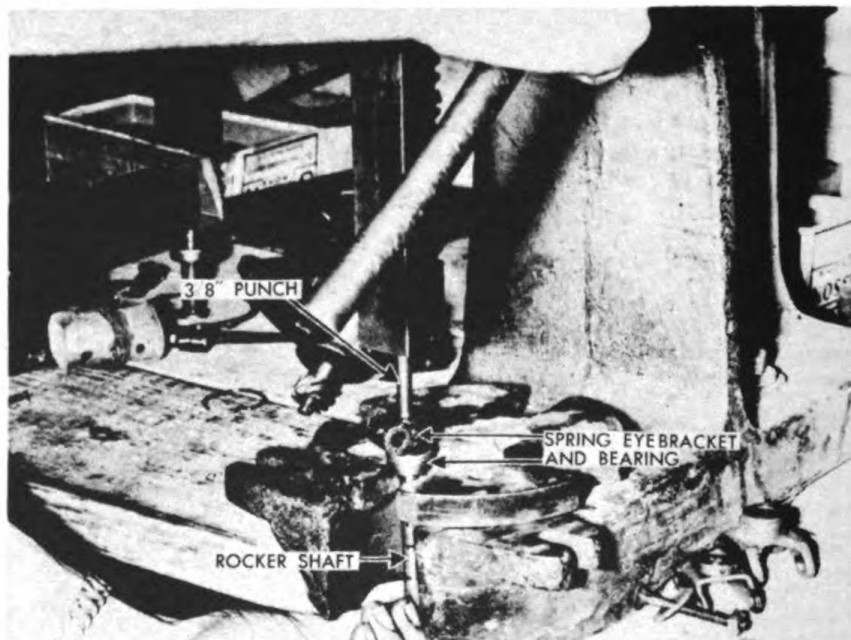

Figure 313. Pressing Bracket, Bearing, Retainer, Oil Seal and Bearing from Shaft.
- d. Be sure pin has been removed from spring eye bracket and press bracket, bearing retainer, oil seal and bearing from shaft with arbor press. Use $\frac{3}{4}$ " punch. See figure 313. In replacing this part, a new oil seal, and retainer can then be knocked out of body cap with rawhide mallet and $\frac{1}{2}$ " diameter punch.